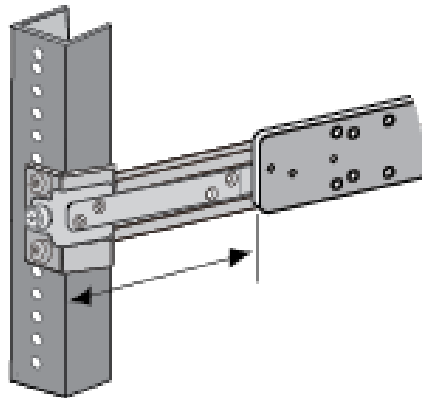

Figure 114. Verifying the Length of the Extension Bracket
5. Measure the distance from the front of the equipment rack to the front of the inner rail. Refer to Figure 114. This should approximately match the value you measured in “Measuring the Extension Bracket Lengths” on page 180.